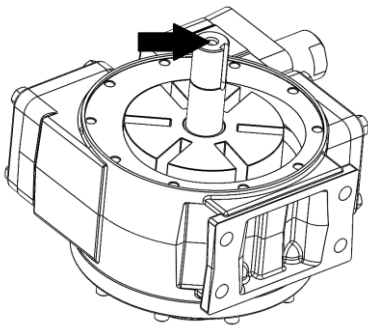
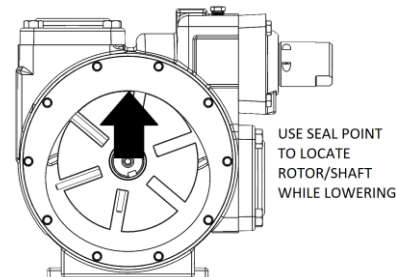

Figure 8 – Location of Rotor/Shaft Lifting Lug
Figure 11 – Rotor/Shaft Installation Tip
11. Remove driven magnet assembly (52) and key (35A). Set driven magnet assembly on a nonmagnetic surface, away from any magnetic components.
12. Slide inboard head (20) up wet end shaft (13) and set aside. Head may require light prying around outer diameter, if it is difficult to remove. Remove and discard o-ring (72).
13. Remove vanes (14). And inspect for wear.
14. Carefully remove rotor/shaft (13) from the pump cylinder. A lifting lug (5/16-18 UNC thread) can be installed in the end of the rotor/shaft to aid in removal. See Figure 8. Ensure that rotor/shaft isn't damaged and that it doesn't damage the cylinder, bushing, or head.
4. Lubricate the outboard head capscrews (21) with a quality grade of anti-seize compound and install, torquing to 25 ft-lbs (34Nm).
5. Install a new bearing cover o-ring (26) in the groove in the outboard head. Place the bearing cover (27) on the head. Lubricate the bearing cover capscrews (28) with a quality grade of anti-seize compound and install. Torque to 25 ft-lbf (34Nm).
7. Inspect the vanes (14) and push rods (77) for wear and damage, and replace as follows:
- a. The push rods MUST be installed before installing the rotor and shaft (13) into the pump cylinder. To do so, hold the rotor and shaft vertical, with the non-driven (shorter end) down. See Figure 8 for optional location of lifting lug to aid in installation. Slide the push rods into the push rod holes of the rotor, then insert the rotor/shaft into the open end of the pump cylinder. See Figure 8 for optional location of lifting lug to aid in installation. Do not let rotor/shaft drop or damage bushing. Push rotor towards seal point, while lowering, to help guide the shaft into the bushing See Figure 11.